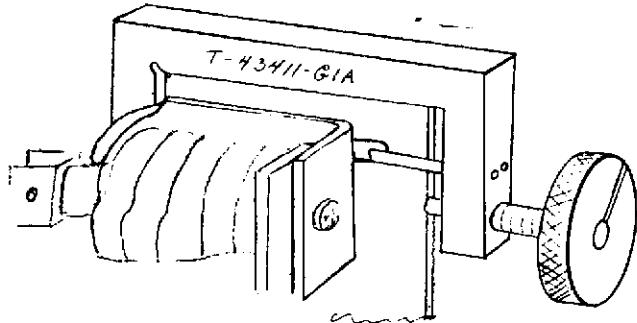

Figure 3-42. HOLDING CLAMP T-43411-G1A
c. Use holding clamp T-43411-G1A (Fig. 3-42) to move solenoid in slightly ( $\frac{1}{2}$  to 1 turn), to eliminate buzz, or out slightly for more clutch drive. Also actuator may be rotated (Para. G-11d) slightly for tighter clutch spring warp.